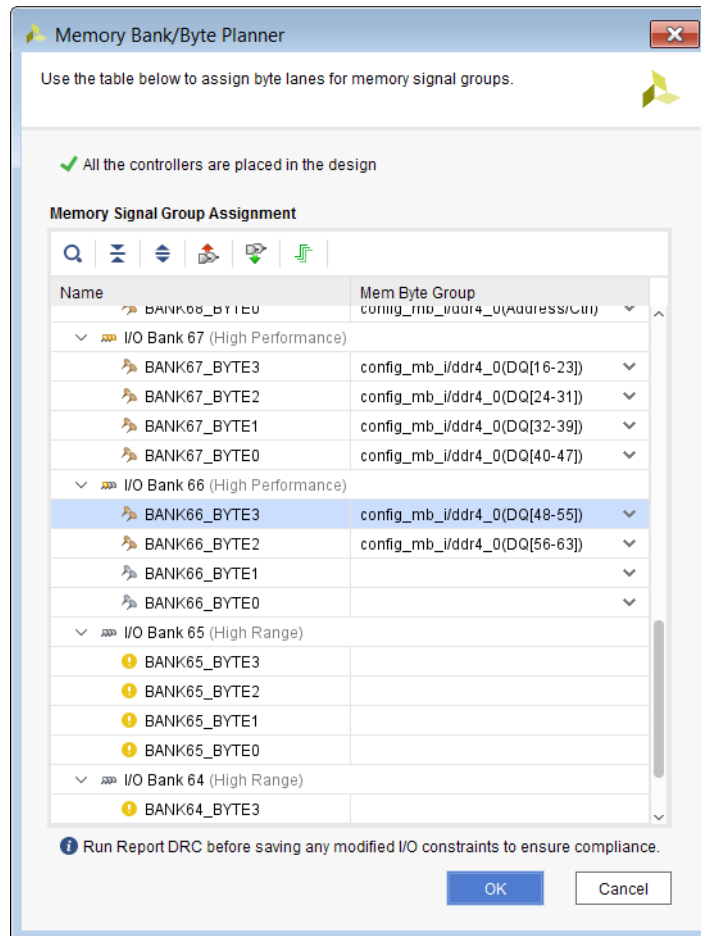

Figure 4-11: Manually Assigning Signal Groups to Byte Lanes
1. In the Mem Byte Group column (Figure 4-11), click the drop-down list next to a bank.